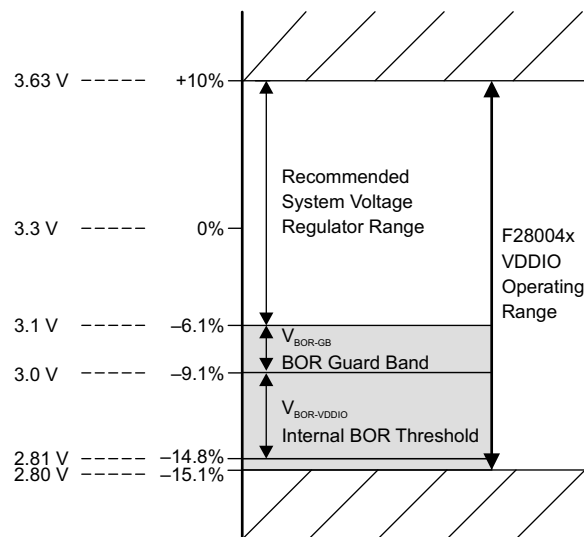

Figure 5-1. Supply Voltages
- (1) Internal BOR is enabled by default.
- (2) The VDDIO BOR voltage (V_{BOR-VDDIO(MAX)}) in Electrical Characteristics determines the lower voltage bound for device operation. TI recommends that system designers budget an additional guard band (V_{BOR-GB}) as shown in Figure 5-1.
- (3) Supply ramp rate faster than this can trigger the on-chip ESD protection.
- (4) TI recommends V_{BOR-GB} to avoid BOR resets due to normal supply noise or load-transient events on the 3.3-V VDDIO system regulator. Good system regulator design and decoupling capacitance (following the system regulator specifications) are important to prevent activation of the BOR during normal device operation. The value of V_{BOR-GB} is a system-level design consideration; the voltage listed here is typical for many applications.
- (5) Operation above T_J = 105°C for extended duration will reduce the lifetime of the device. See Calculating Useful Lifetimes of Embedded Processors for more information.